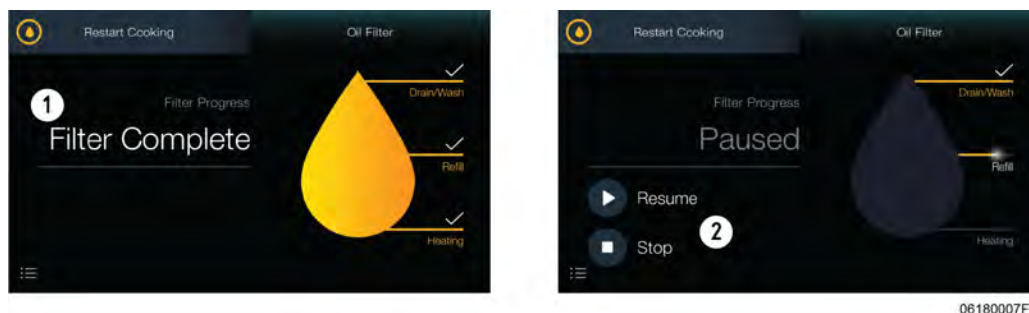

Figure 4-16
- 6) Once heated, **Filter Complete** displays followed by the cooking screen, see (1) Figure 4-16 , page 31.
Team members have the option to pause each step, followed by either resuming the step or stopping the Express Filter, see (2) Figure 4-16 , page 31.